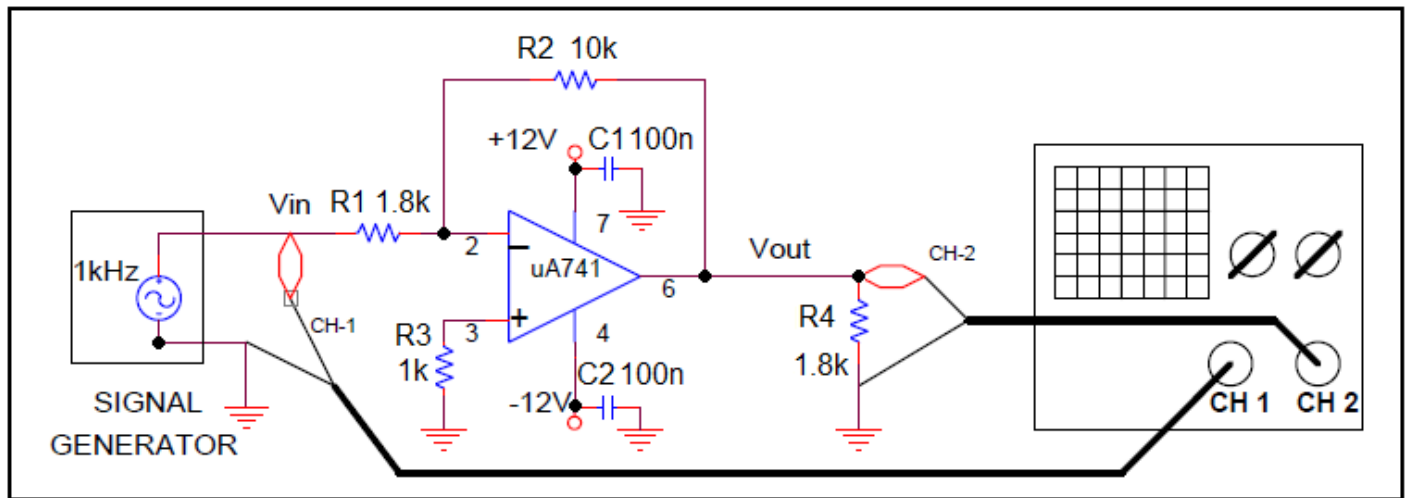

Figure 6 Measurement circuit for inverting amplifier
2.1. Build the circuit of Figure 6 using an 8-pin uA741 op-amp with $R_1 = 1.8\text{k}\Omega$, $R_2 = 10\text{k}\Omega$. To achieve better circuit stability, connect 100nF capacitors between the pins #4 and #7 of the uA741 and the Ground, as shown in Figure 6.